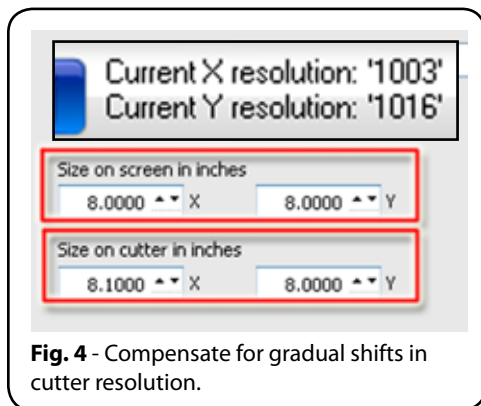

Fig. 4 - Compensate for gradual shifts in cutter resolution.
- **Manual Cutter Calibration** – For heavily-used cutters that are demonstrating a need for replacement parts, Digital Factory provides an interim software solution (Fig. 4) that compensates for gradual shifts in cutter calibration.